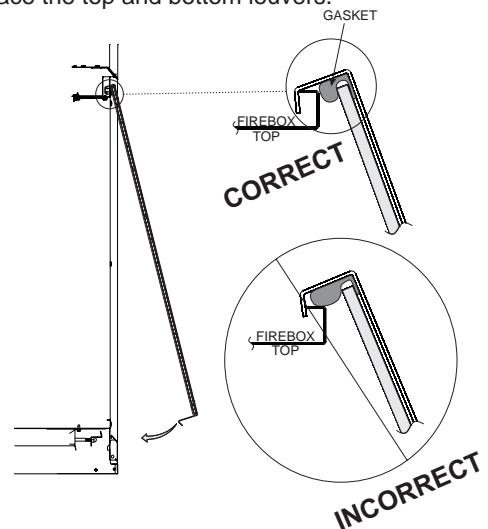

Figure 66
1. When installing the Glass Door assembly, make sure that the door top flange is hooked over the firebox top flange as illustrated in the "Correct" view in **Figure 66**.
Important: Do not allow the gasket across the top of the door to roll up on top of the firebox flange as shown in "Incorrect" view in Figure 66.
- Check all latches or other door retention components for proper operation, tension, and relief mechanisms are free from obstructions. **See Figure 66.**
- Check the barrier screen for fit and structural integrity. **See Figure 66.**